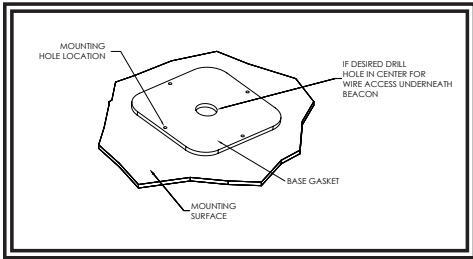

FIGURE 1
2. Using the supplied mounting gasket as a template, mark the four (4) drill hole locations on the mounting surface per FIGURE 1.